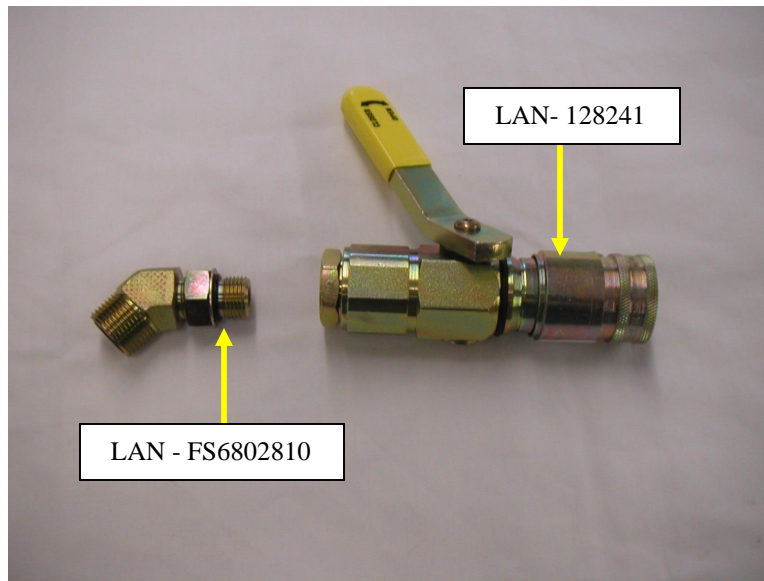

Figure 21
10. Install Hydraulic Fitting (**LAN – FS68028108) onto large Quick Coupler (LAN – 128241). Do not completely tighten fitting (**LAN – FS6802810) at this time. (See Figure 21)